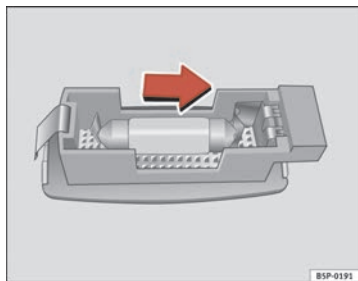

Fig. 202 Removing sun visor light
- Carefully remove the lamp, using the flat side of the screwdriver, as shown in the figure ⇒ fig. 202.
- Remove the bulb, moving it in the direction of the arrow and outwards ⇒ fig. 202. ■